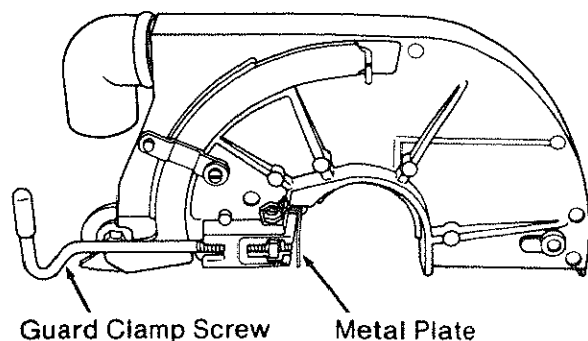

Fig. 73
1. Loosen the *guard clamp screw* until it no longer touches the *metal plate*. (Figure 73)